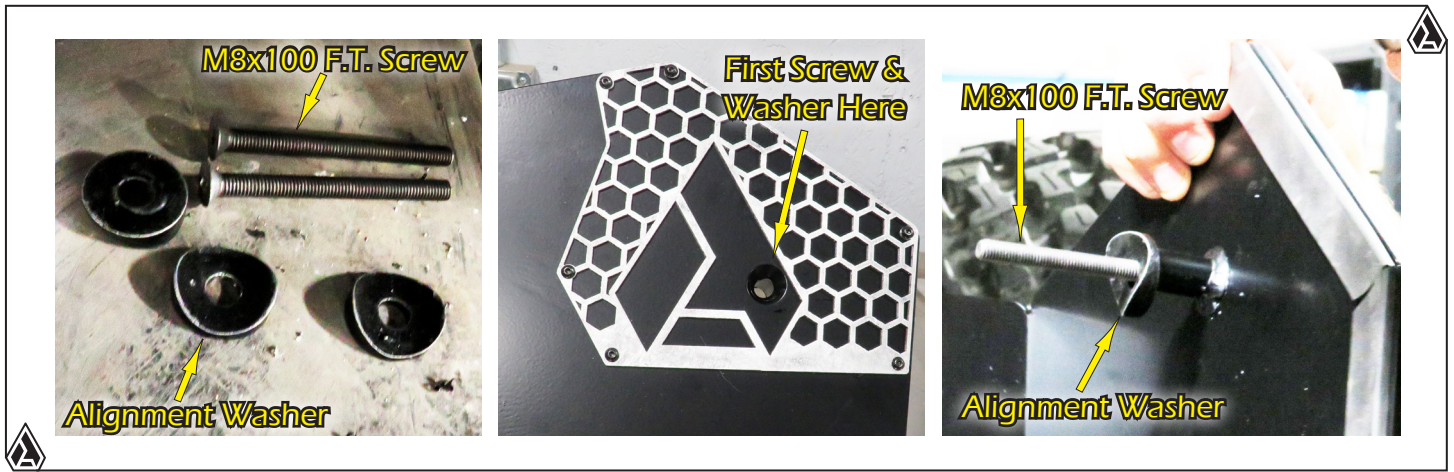

FIG.5
5. First, start with One (1) of the **M8x100 F.T. Screws** and Two (2) of the **Alignment Washers** from your kit and assemble one of each into the corner hole as shown in Fig.5.